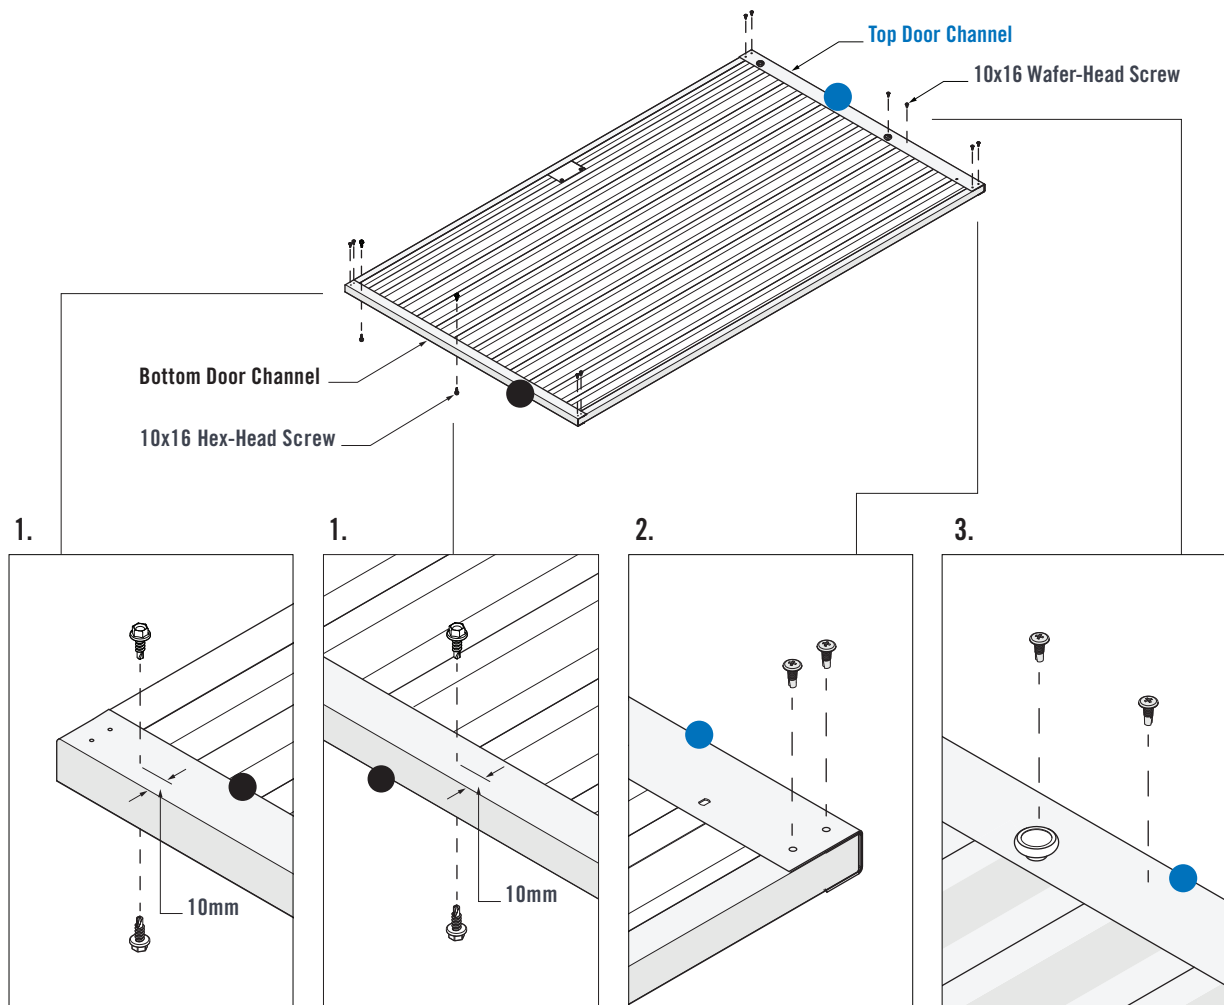

FIGURE 6.6
1. Fasten a 10x16 Hex-Head Screw into the mid-point of the Bottom Door Channel. Ensure the screw is fastened approximately 10mm from the bottom face of the Channel. Fasten a 10x16 Hex-Head Screw near the Handle Mount end of the Bottom Door Channel. Flip over the Door Assembly so that the underside is now facing up. Fasten two more 10x16 Hex-Head Screws in the same manner on the opposite side of the Bottom Door Channel (Figure 6.6).
2. Fasten two 10x16 Wafer-Head Screws through pilot holes in the **Top** and Bottom Door Channels and into the Vertical Door Channels at all four corners (Figure 6.6).
3. Fasten a 10x16 Wafer-Head Screw through the **Top Door Channel** and into the two Sheet Crests on both sides of the Door Wheel. (Figure 6.6).